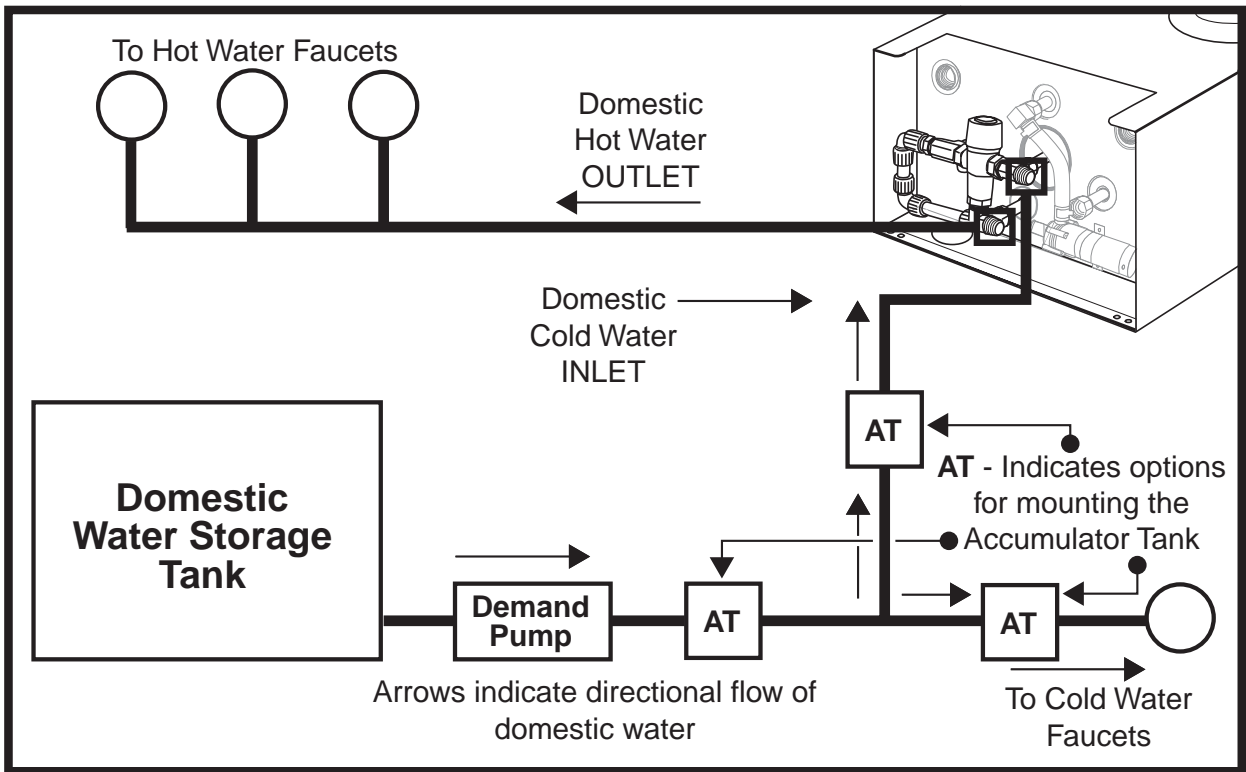

Figure 18
The Hydro-Hot is equipped with a Mixer-Valve which regulates the temperature of the hot water, see Figures 18 and 19.
1. Connect a domestic water Plumbing Line from the Domestic Water Demand Pump / Water Manifold to the **Cold "Inlet" Port** on the Hydro-Hot's Mixer-Valve, see Figures 18 and 19.
- A. Be sure to install an Accumulator Tank in the domestic water system, see Figure 18. The Accumulator Tank will absorb the pressure increase due to the heating of the water in the domestic water heating system.
2. Connect a domestic water Plumbing Line from the Hydro-Hot's **Hot "Outlet" Port** to the hot water system's Distribution Lines / Water Manifold, see Figures 18 and 19.